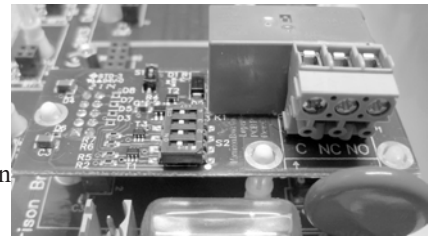

Figure 2 - Proper placement of the OUTPUT MODULE
- Carefully position the OUTPUT MODULE in place making sure the connectors are mated properly as shown in **Figure 2**